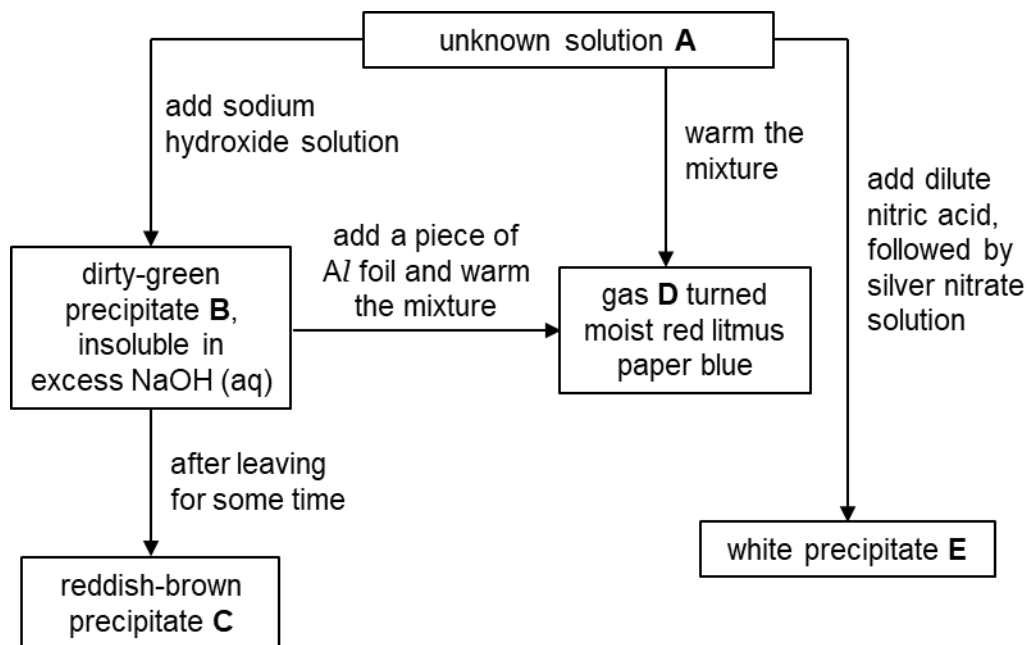

Fig. 2.1
- 2 An unknown solution **A** contains a mixture of two salts. A series of chemical tests was carried out and the observations were recorded as shown in Fig. 2.1.